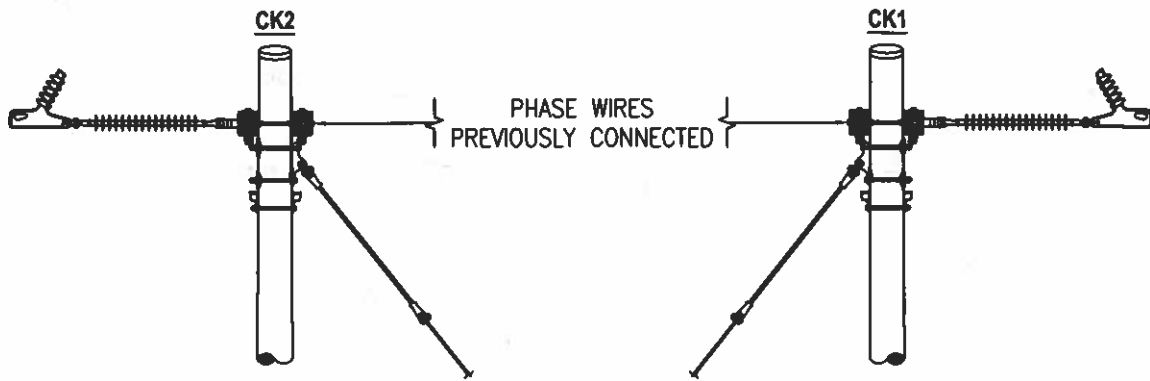

FIG.1
1. WHEN SEPARATING A LINE INTO TWO CIRCUITS, THE PRIMARY METHOD SHOULD BE REMOVAL OF EXISTING PHASE WIRES, AND ADDITION OF A STANDARD GUY ASSEMBLY (FIG 1).